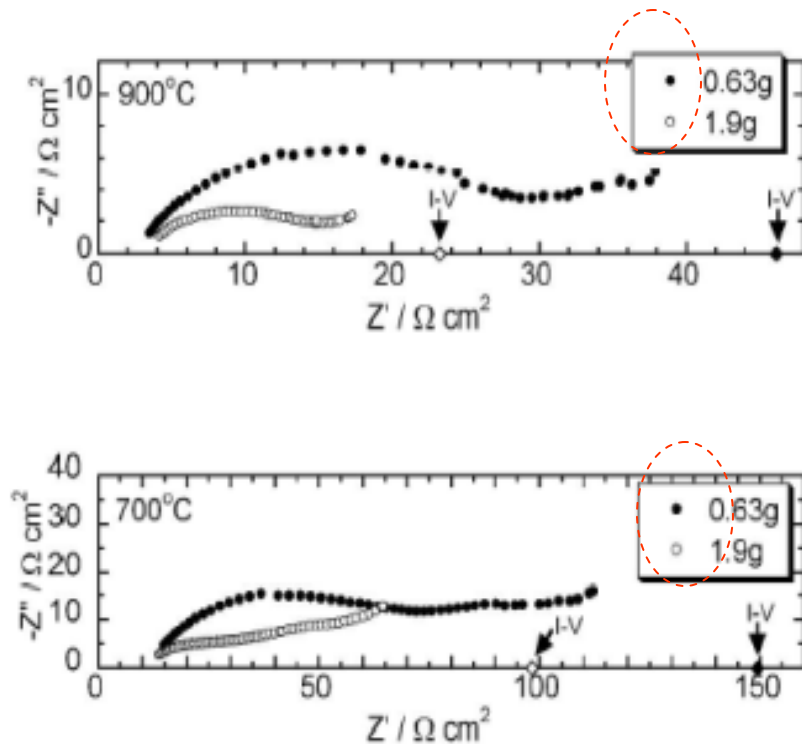

Figure 4. Effect of the amount of the carbon/carbonate slurry on the impedance spectra at 900 and
Figure 4. (a) Atomic structure of the $K_2Ti_6O_{13}$ nanobelt, with growth direction $[010]$, side surfaces (100) and top and bottom surfaces (001) . (b) and (c) Projection of the unit cell of $K_2Ti_6O_{13}$ along the b and c axis, respectively. (d) and (e) Schematic chess pattern representation of the cation and anion distribution in the (100) plane, parallel to which the two spiral looks meet. The red area corresponding to O^{2-} , and the blue area corresponding to K^+ .